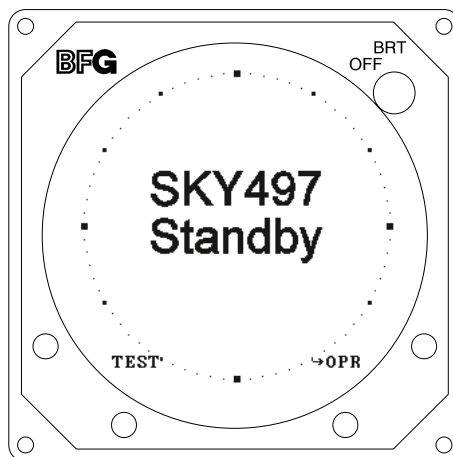

Figure 3-3. Standby Screen
After approximately thirty seconds the display will show the STANDBY screen (see figure 3-3).
5. If SKYWATCH passes the self-test, the system will return to the STANDBY screen (see figure 3-3) and the voice message, "TRAFFIC ADVISORY SYSTEM TEST PASSED," will be enunciated over the cockpit audio system.